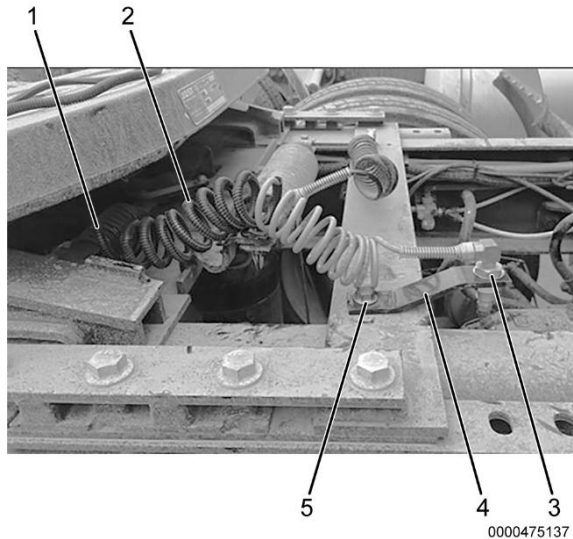

Figure 2. Fifth Wheel Air Line Relocated
6. Starting from the jaw actuator (Figure 2, Item 1), install 2.5 feet of split loom convolute (Figure 2, Item 2) onto the air line.
7. Install air hose support (Figure 2, Item 4) and secure with M12 X 1.7 bolt and M12 nut.
8. Using a torque wrench, tighten M12 X 1.7 bolt and M12 nut (Figure 2, Item 5) to 64 lb-ft to 79.6 lb-ft (88 N•m to 108 N•m).
9. Install anchor coupling (Figure 2, Item 3) to air hose support.
10. Using a torque wrench, tighten anchor coupling (Figure 2, Item 3) between 18 lb-ft to 22 lb-ft (24.4 N•m to 29.8 N•m).